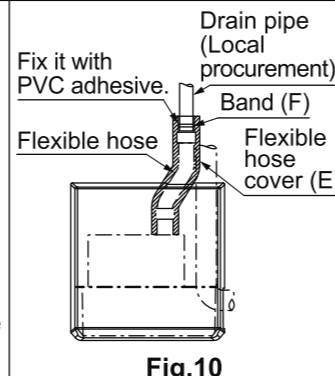

Fig.10
- (2) Connect the flexible hose, which runs from the top panel of the Drain Pump, to the local drain piping as shown in Fig.10. Be sure to use the PVC adhesive and the attached band (F) to close and fix the connection part so that water will not leak.
- (3) Insulate the flexible hose which runs from top panel of Drain Pump by attaching the flexible hose cover (E) as shown in Fig.10.